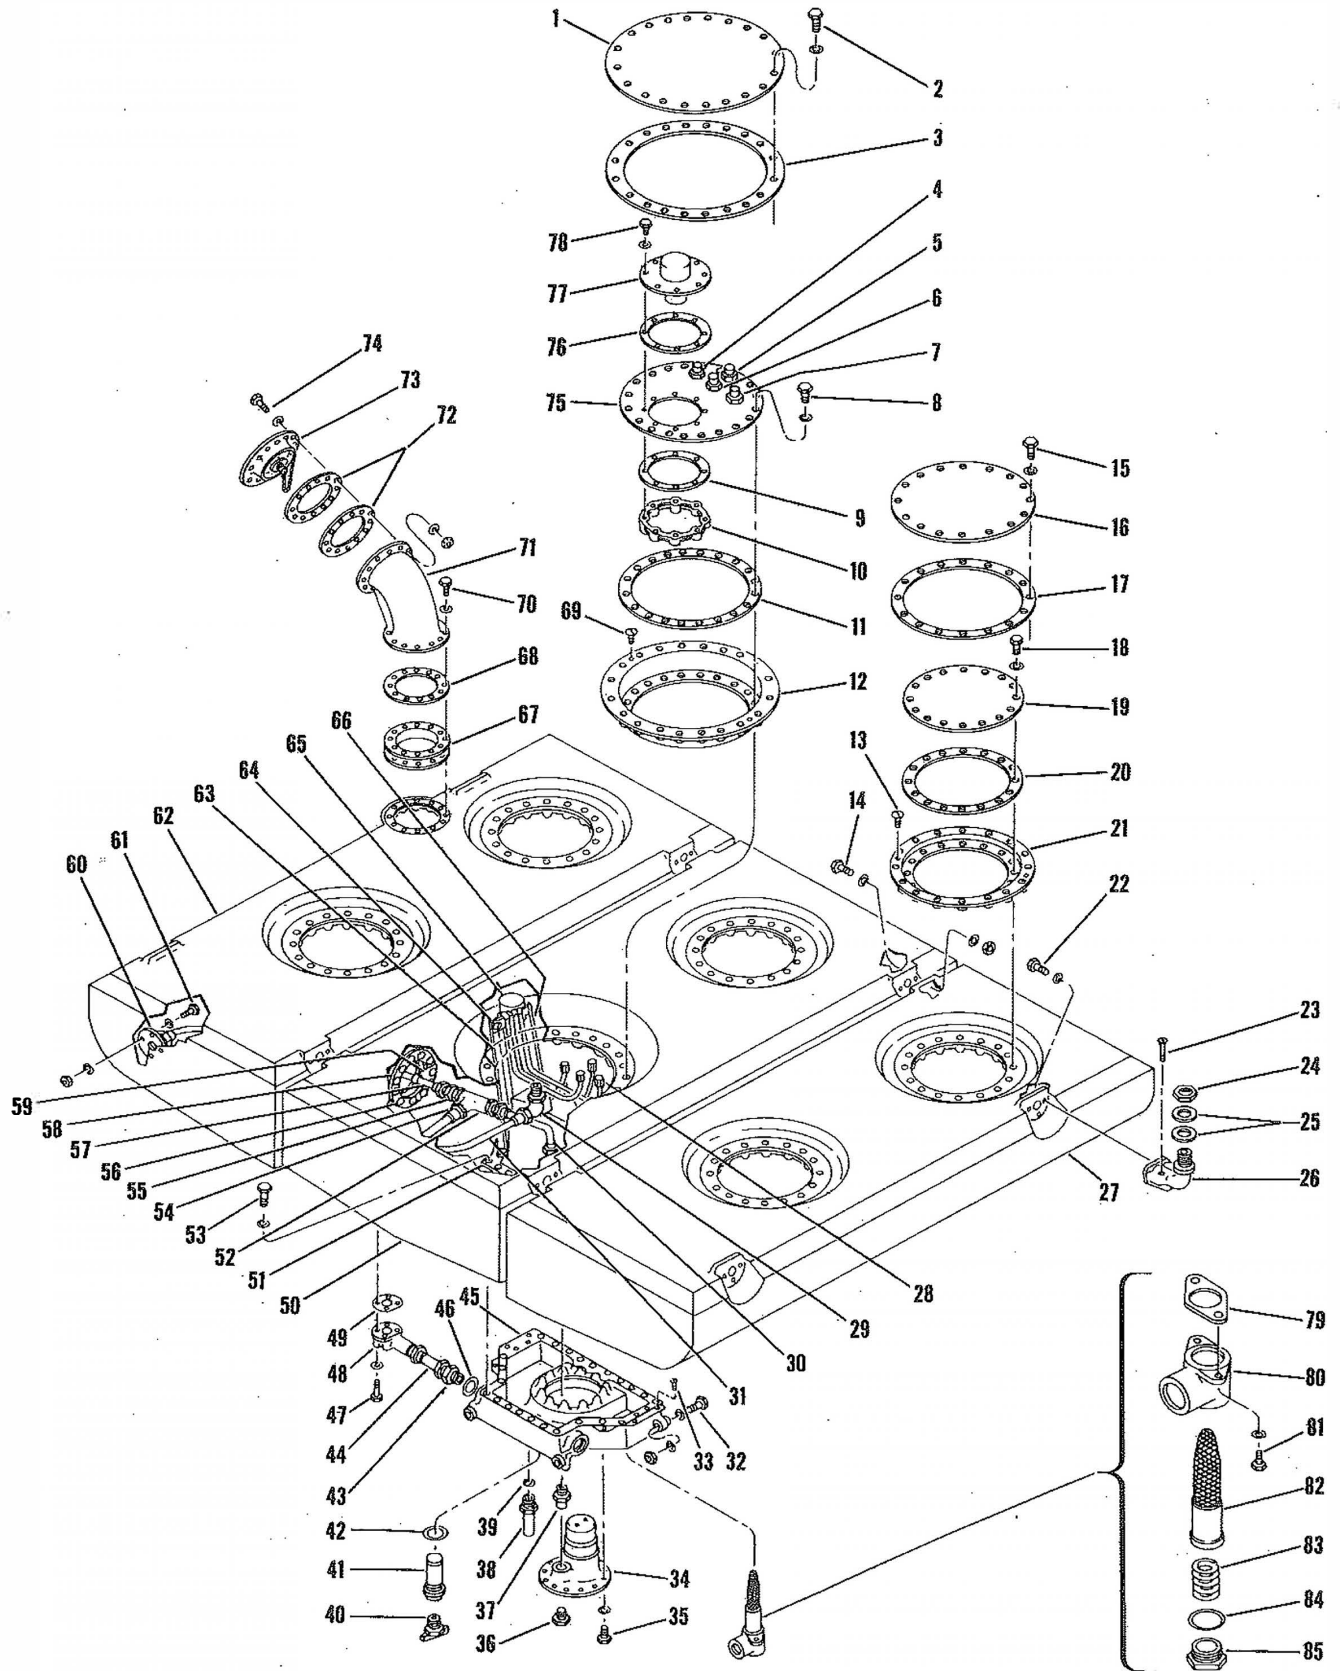

Figure 5-20. Aft Fuel Tank
m. Position the connector (71) at the aft wall of the right cell (64). Reach into the right cell (62, figure 5-20) of the aft tank and install the bolts, washers and nuts (61) that secure the connector.
- c. Remove the bolts and washers (15, figure 5-20) that secure each access cover (16) to the cabin floor. Remove each cover and gasket (17).
- d. Cut the lock wire and remove the bolts and washers (18) that secure each cell cover (19) to the support (21). Remove each cover and gasket (20).
- e. Remove the screw, washers and nut from the clamp (59) around the transfer pump tube (57) at the interconnecting hole in the right cell (62). Remove the clamp.
- f. Disconnect the transfer pump tube (57) from the connector (60) at the front of the right cell (62) and from the check valve (55) in the tee (52) in the center cell (50). Remove the tube.
- g. Disconnect the flexible hose (31) from the reducer (54) in the tee (52) in the center cell (50). Remove the hose. Disconnect the outlet tube (30) from the transfer pump (34). Remove the tube and tee.
*Key to Figure 5-20*
j. Remove the bolts, washers and nuts (61, figure 5-20) that secure the connector (60) at the forward wall of the right cell (62). Remove the connector.
k. Cut the lock wire and remove the bolts and washers (22) from the two overboard vent fittings (26) in each outside cell (27 and 62).
d. Lay the cell cover supports (12 and 21, figure 5-20) on top of each cell.
g. Check that the gasket (67) and spacer (68) are correctly positioned at the filler hole in the floor panel. Position the elbow (71) over the hole and secure it to the floor panel with the bolts and washers (70). Tighten the bolts with 25 to 30 inch-pounds torque. Lockwire the bolts.
h. Position the filler cap (73) against the outer surface of the scupper. Install a gasket (72) against each surface of the scupper. Secure the filler cap and elbow (71) to the scupper with the bolts, washers and nuts (74).
i. Install the bolts, washers and nuts (14) at the two interconnecting vent fittings between each cell.
j. Install the flanges (58) at the interconnecting hole in each cell and secure them with the bolts, washers and nuts (56). Use the first two nuts below the center line at the forward edge of the hole to secure the bracket (59) against the flange in the right cell (62).
k. Install the bolts and washers (22) in the two overboard vent fittings (26) in each outside cell (27 and 62). Lockwire the bolts.
p. Install the union, check valve (55, figure 5-20) reducers and gaskets (54) in the tee (52). Install the tee in the transfer pump tube (57). Connect the tube to the transfer pump (34). Connect the flexible hose (31) to the reducer (54) in the tee.
q. Connect the transfer pump tube (57) to the connector (60) at the front of the right cell (62) and to the check valve (55) in the tee (52) in the center cell (50). Install the clamp (59) around the tube and secure it to the bracket (59) at the interconnecting hole with the screw, washers and nut.
t. Install the cell covers (19, figure 5-20) and gaskets (20) and the access covers (16) and gaskets (17). Secure them with the bolts and washers (2 and 15). Lockwire the bolts (18) that secure the cell covers. As an aid in positioning the nut ring (10) below the cell cover, use a drill rod as described in paragraph 5-81, step z.